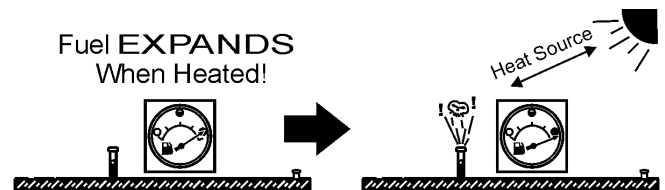

Figure 33. Fuel Expansion
**DO NOT OVERFILL** fuel system. Leave room for fuel expansion. Fuel expands when heated (Figure 33).